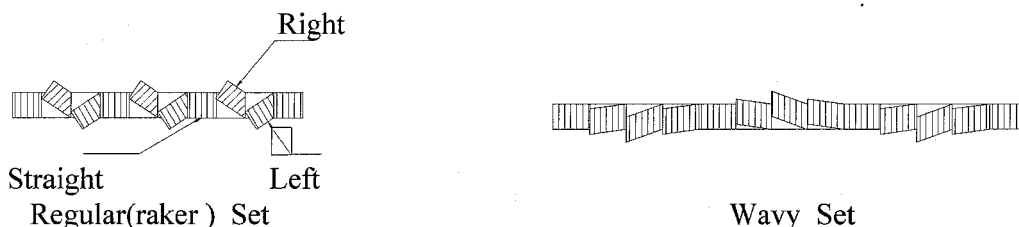

Fig. 7.1 The saw set
- ☐ Wavy set has groups of teeth set alternately to right and left, forming a wave-like pattern. This reduces the stress on each individual tooth, making it suitable for cutting thin material or a variety of materials where blade changing is impractical. Wavy set is often used where tooth breakage is a problem. This is shown in Fig. 7.1 as follows: